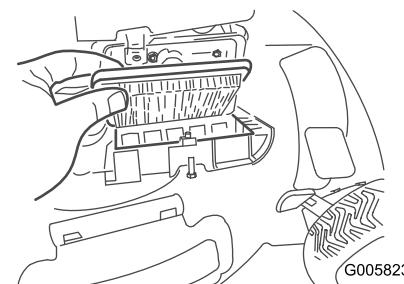

Figure 24
2. Replace the air filter (Figure 24).